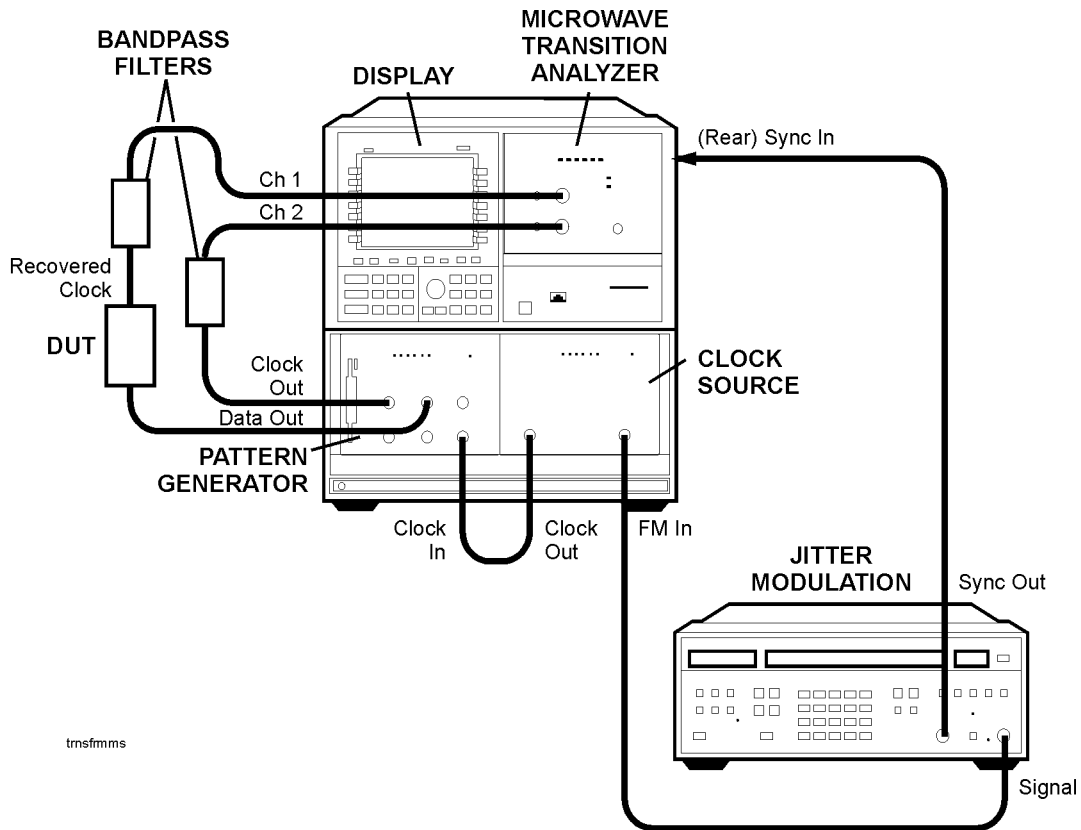

Figure 3-3. Jitter Transfer and Generation Connections with Modular¹ Error Performance Analyzer and Modular² Clock Source
- For modular error performance analyzers (70841A/B and 70842A/B), refer to Figure 3-3 on page 3-10.